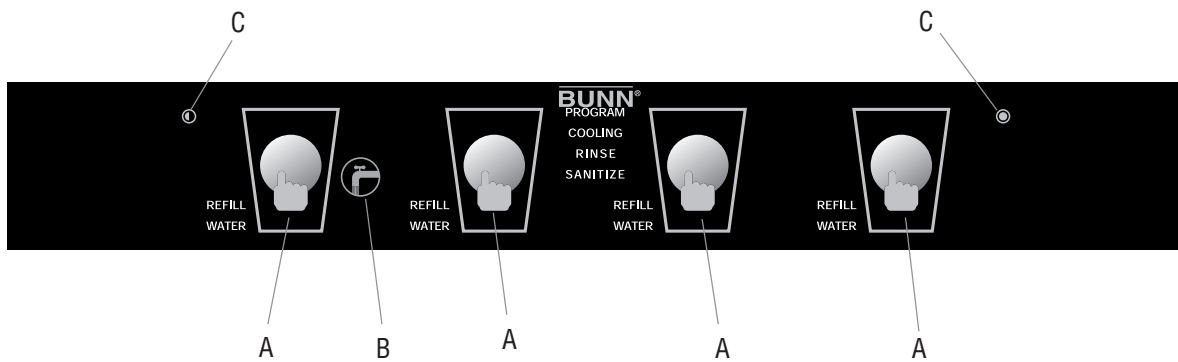
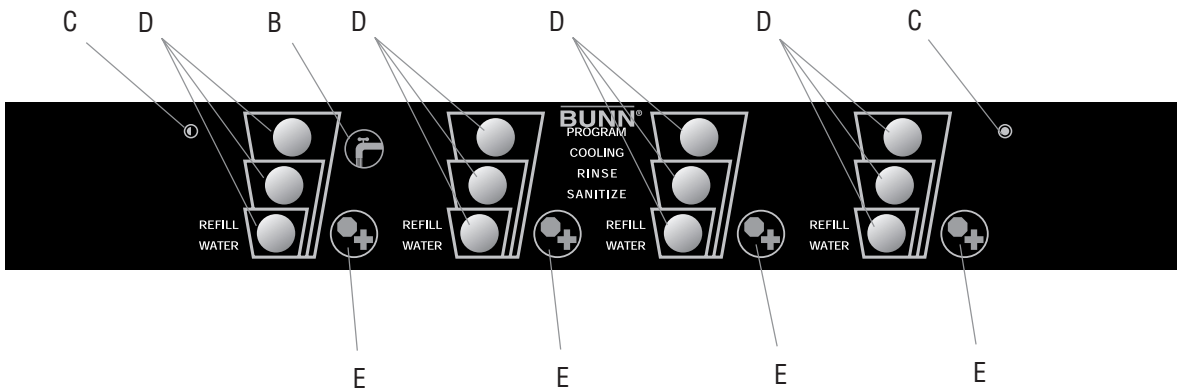

FIG 4 Press and Hold Models
FIG 5 Portion Control Models
Press and hold the "Product Dispense Switch" Fig 4, until concentrate dispenses from the dispense nozzle.
Press and hold the "+/STOP Switch" Fig 5, until concentrate dispenses from the dispense nozzle.
### **Press and Hold Models** (Refer to Fig 4)
### **Portion Control Models** (Refer to Fig 5)
5. Press and release the appropriate "Product Dispense Switch" Fig 4. This will initiate a timed rinse cycle. Portion control users can press any of the 3 "Product Dispense Switches" Fig 5, to initiate a timed rinse cycle.
5. Press and hold the "Sanitize Switch" Fig 4, located on the front left portion of the base, for 5 seconds. The "SANITIZE" indicator on the front panel will begin to flash and the beeper will sound twice indicating that you have entered the sanitize mode.